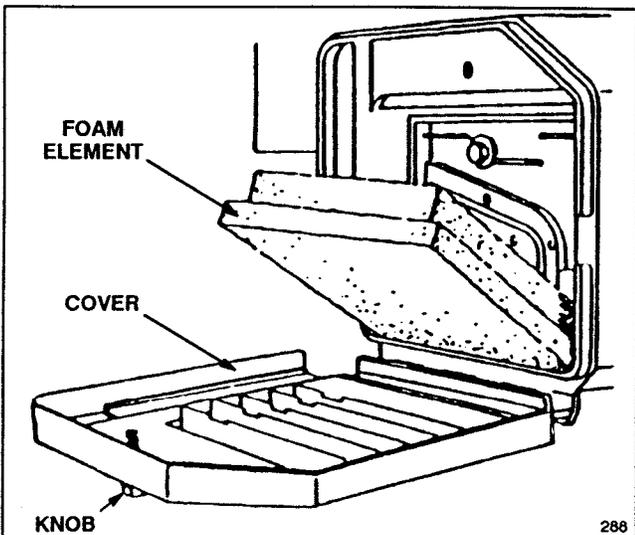

Figure 18
2. Rotate knob securing air cleaner cover to engine until cover can be removed. Clean cover thoroughly (Fig. 18).
3. If outside of foam element is dirty, remove it from air cleaner body (Fig. 18). Clean thoroughly.
1. Stop engine and pull wire off spark plug (Fig. 18). Remove key from switch on electric start model.